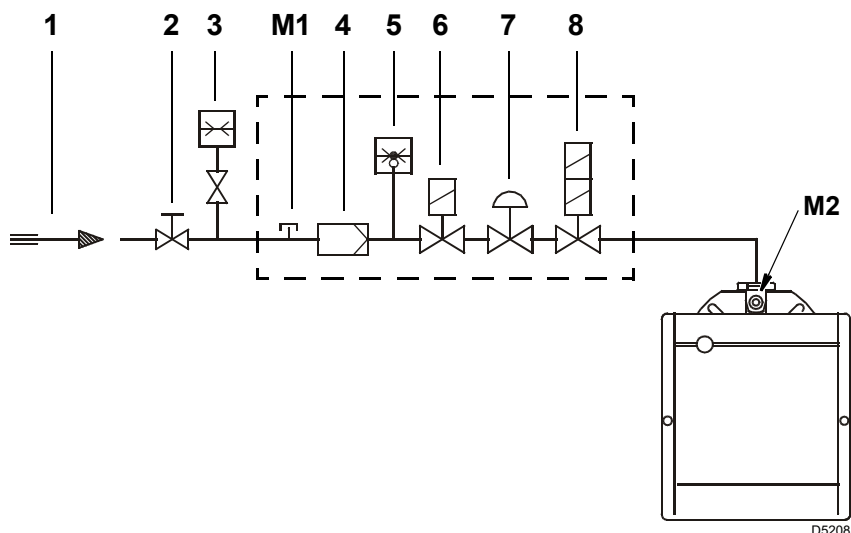

Fig. 15
Key (Fig. 15)
Gas pressure measured at test point M2)(Fig. 15 on page 18), with:
- subtract the pressure in the combustion chamber from the pressure of the gas at test point M2)(Fig. 15 on page 18).
Gas pressure at test point M2)(Fig. 15 on page 18)= 10.9 mbar
To calculate the required gas pressure at test point M2)(Fig. 15 on page 18), with the maximum modulating output at which you want the burner to operate having been fixed:
- Read on the right, column 1, the pressure at the socket M2)(Fig. 15 on page 18).
pressure required at the test point M2)(Fig. 15 on page 18).